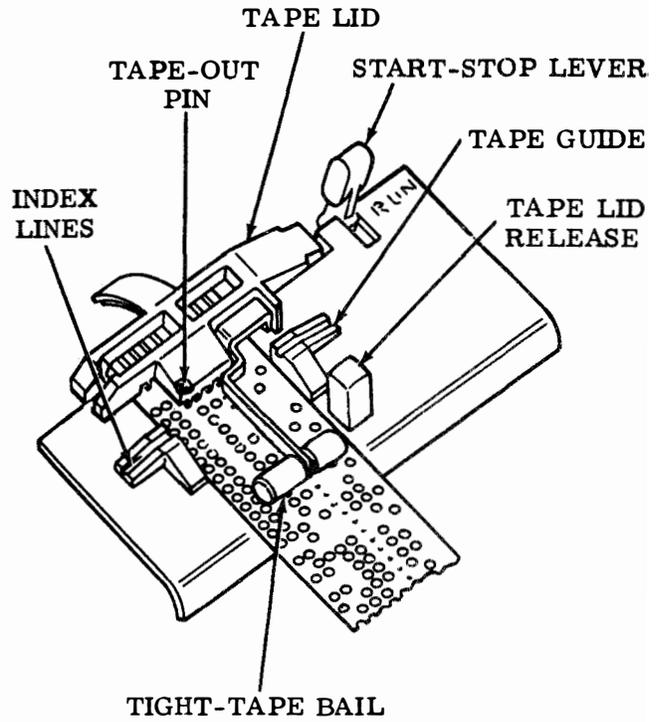

Figure 19 - Tape Guide Plate
11.02 The start-stop and tight-tape switch is in series with the sensing clutch trip magnet circuit. The tight-tape bail (Figure 19)
12.01 When the tape lid release button (Figures 19 and 20) is pressed, the plunger portion of the button presses against the tape lid plunger bail extension causing the bail to pivot. The bail, in pivoting, moves its latching extension from under the tape lid latching post